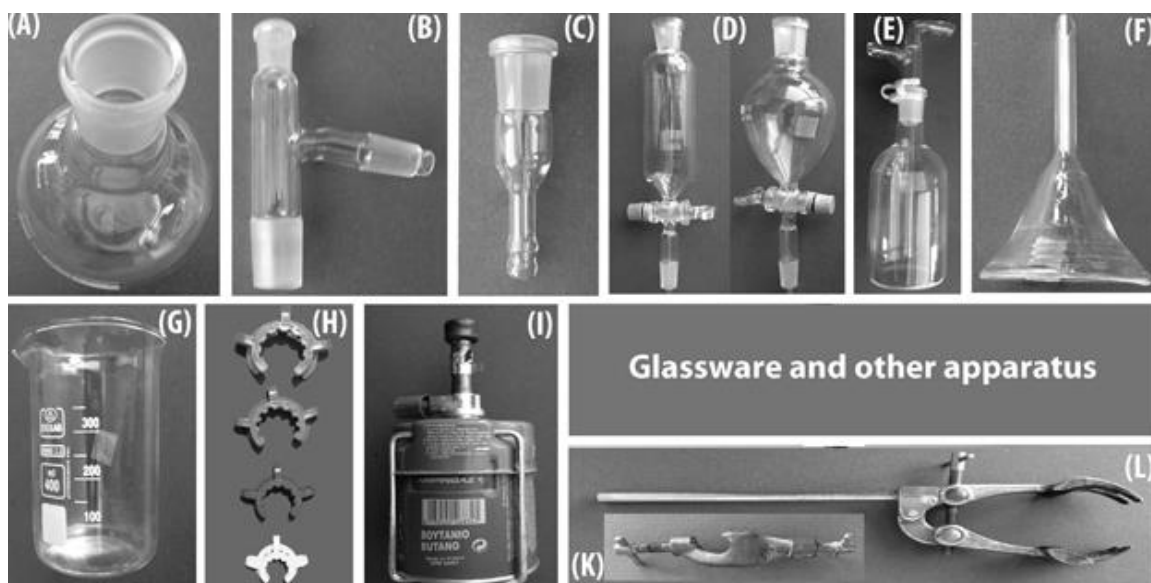
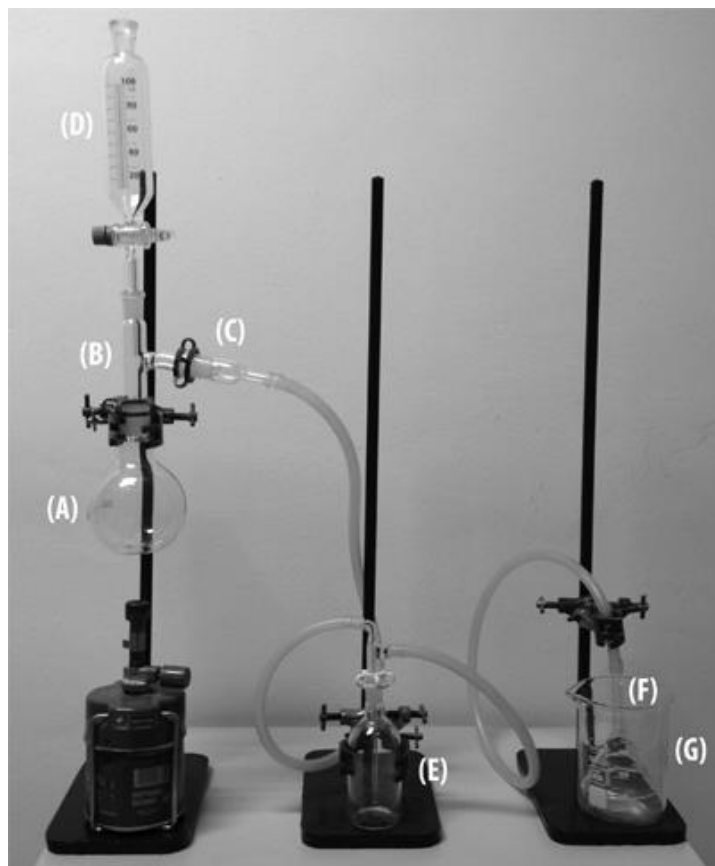

Figure 1: Photos of the glassware and other apparatus that will be used for the experiment. **(A)** Round bottom flask
Figure 2: The experimental set up for the purification of NaCl.
2.1. Weigh 37 g of impure NaCl and add to the 250 mL beaker which contains 100 mL distilled water (solubility of NaCl is 35,7 g /100 mL H₂O at 20°C). Stir until the NaCl dissolves, forming a saturated solution. If some insoluble residue remains, decant the solution into another beaker of 400 mL volume (**beaker G in Figure 1**).
2.3. Add 40 g of cooking salt to the round bottom flask (**flask A in Figure 1**) and then place the tube adapter (**B**) on the opening of the round bottom flask using the green colored fastener. **Every time you connect joints, use a small amount of vaseline.** Then assemble the apparatus as shown in **Figure 2**. **This must be done in the fume hood.** Follow the detailed instructions given below.
We place a sodium chloride solution of mass concentration ρ_A into a container. We submerge two identical metal plates (**electrodes**) into the liquid. We have built an **electrolytic device** (Figure 1).